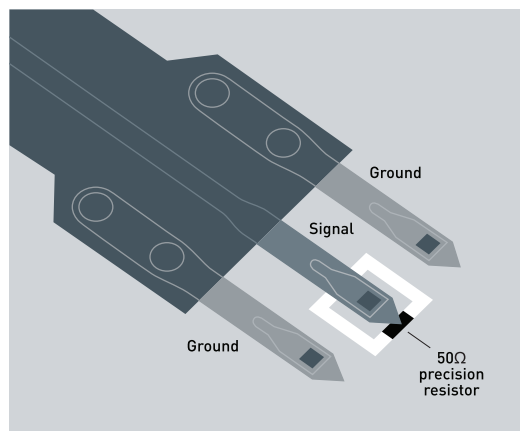

FIG. 5 Landing a G-S-G probe from the left onto a resistor load using the general-purpose ISS.
- **LOAD** Position each probe (individually) over a resistor in the center area of the ISS. Be sure to find a resistor that is oriented away from the direction of the probe, as shown in Figure 5. (The probe’s transmission line should not overlap the resistor itself). Collect the Load standard measurement.